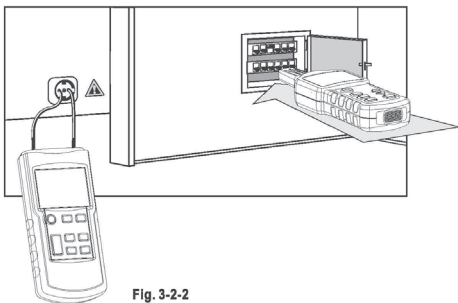

Fig. 3-2-2
In a multi-dwelling building, use the L and N terminals of a household outlet to send the emitter signals (as shown in Fig. 3-2-2) and set the transmit power of the unit to an appropriate level.
- * Connect the emitter according to Fig. 3-2-2.